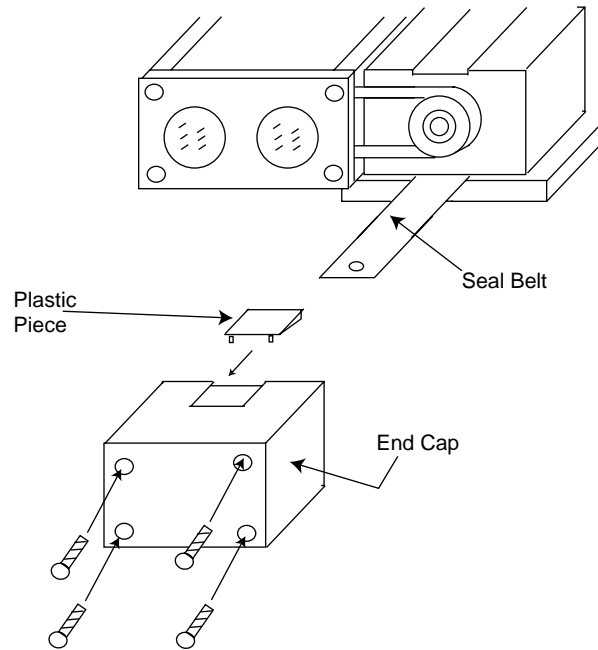

Figure B-14. End Cap Reinstallation
21. Installation of the end cap (see Figure B-14).